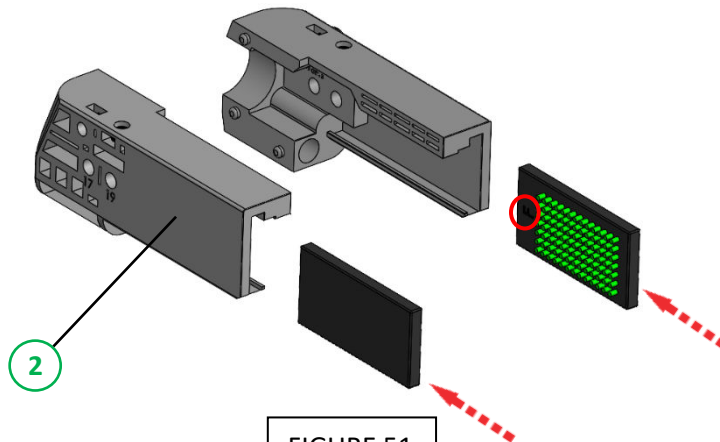

FIGURE 51
Slide in the brush plates into the front aluminum tube housing (2) (x2). Make sure the “F” letter is going first in and visible (circled). The brushes are supposed to face inwards as well (FIGURE 51).